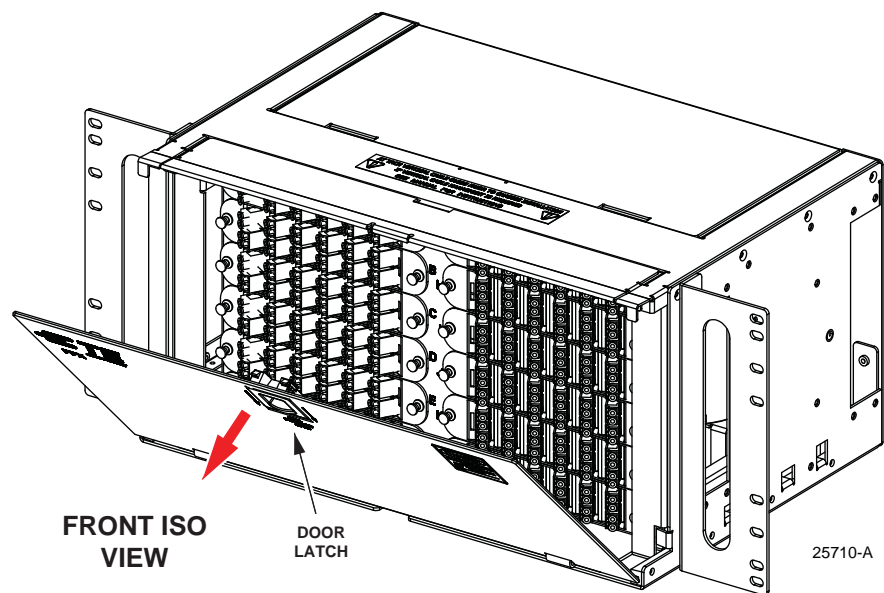

Figure 40. Opening the Front Door (5RU Panel Shown)
1. From the front of the panel, pull down the front door latch and swing down the front door as shown in Figure 40. Open the door until it is flat with the bottom of the panel.